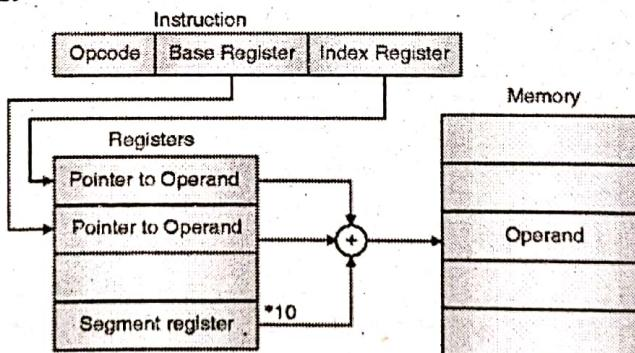

Fig. 8-Q. 6(b) : Based indexed addressing mode
- In this addressing mode the effective address is given by a base register and an index register, specified in the instruction. This effective address is added with the segment register * 10H to generate the physical address as shown in Fig. 8-Q. 6(b).